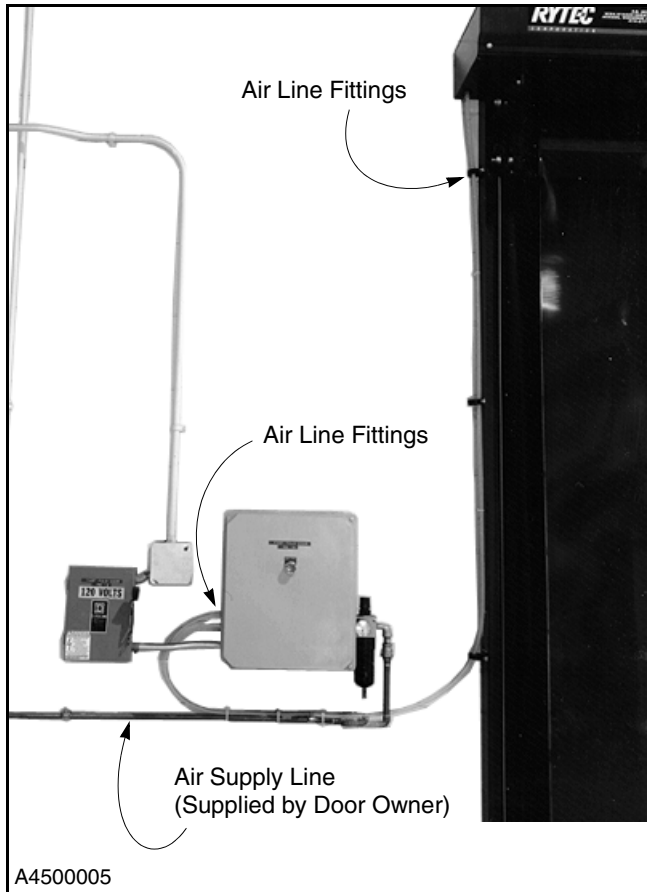

Figure 35
3. Attach the air lines, which were supplied with the door, to the fittings on the left side of the control panel. (See Figure 35.)
4. Run the air lines from the control panel to the fittings on the underside of the head assembly. The line from the upper fitting connects to the fitting at the rear of the header. The line from the lower fitting connects to the front fitting. (See Figure 35.)